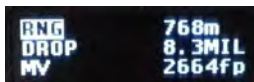

Figure 2.8-4. Muzzle Velocity True Screen
Within the Cal MV Screen, the recommended truing ranges are presented on the top line (see Figure 2.8-4). The first value is the range at which the bullet is at Mach 1.4. The second value is the range at which the bullet is at Mach 1.2. These are the optimal ranges at which the muzzle velocity should be trued.
Step 1.) Access the “MV” adjustment option on the Ballistics Menu as described in Section 2.8.2. The MV value will initially display unchanged (see Figure 2.8-4).